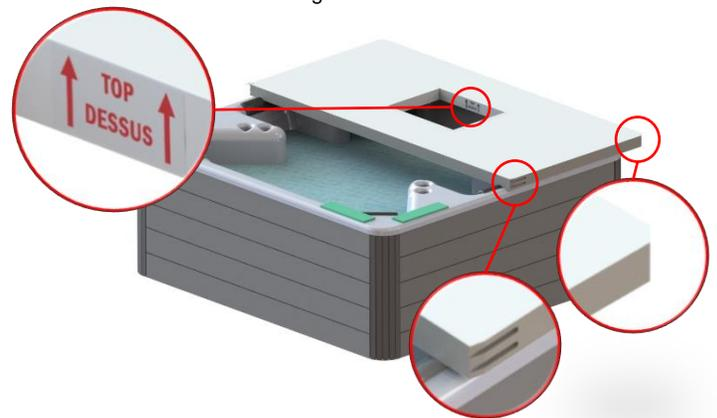

Figure 41
- 2) Place the escape hatch panel on the rear end of the hot tub. (Figure 41)